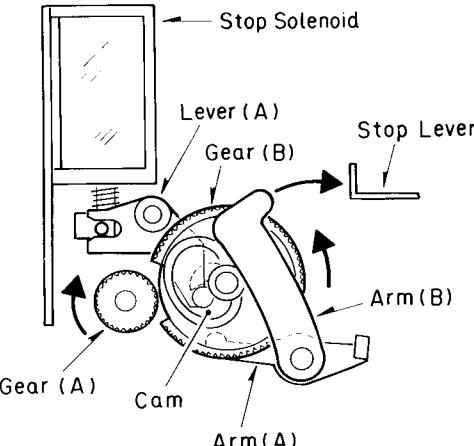

Fig. 4
1. The mechanism uses six solenoids to perform the operations required in STOP, FF, REW, PAUSE, PLAY and REC modes. Figure 4 shows the positional relationship between the solenoid and the gears (STOP mode in this case).
2. When power is switched ON, the motor turns for a predetermined length of time, rotating the pulleys and gear (A).
3. At the same time, the STOP solenoid comes ON and pulls on lever (A) to unlock gear (B). Arm (A) rotates gear (B) a short distance (in the direction of the arrow), where it engages with gear (A).
4. When gear (B) starts turning, the cam presses on arm (B), which in turn presses on the STOP lever.
7. After gear (B) rotates thru one full turn, since the solenoid is now OFF, it locks.
- Pressing the PLAY button starts the motor rotating, and at the same time turns the PLAY solenoid ON. The PLAY lever is pressed by arm (B), and locked by the lockplate (see Fig. 4).
- The PLAY lever, via arm (E) moves the head mount forward. It also presses against arm (F), which causes the pinch-roller to contact the capstan shaft. Arm (F) is coupled to the TP unit thru arm (G), and the above action causes the TP unit to contact the reel unit, completing PLAY mode entry.
- Pressing the FF button starts the motor rotating, and at the same time turns the FF solenoid ON. The FF lever is pressed by arm (B), and locked by the lockplate (see Fig. 4).
- The action of the FF lever causes the FF gear to contact the FR unit and reel unit. Through coupling with arms (H) and (I), it also advances the head mount to the blank (between selection) detection position.
1. Pressing the REW button starts the motor rotating, and at the same time turns the REW solenoid ON. This causes the REW lever to be pressed by arm (B) and locked by the lockplate (see Fig. 4).
2. The REW lever moves arm (J) coupled to the FR unit. The FR unit thus is forced into contact with the reel unit. Through coupling with arms (H) and (I), the REW lever also advances the head mount to the blank detection position.
1. Pressing the REC button starts the motor rotating, and at the same time turns the REC solenoid ON. The REC lever is then pressed by arm (B) (see Fig. 4). At the same time, the REC lever presses the PLAY lever, and both levers are engaged by the lockplate.
1. When the REC button is pressed from the REC PAUSE mode, the PLAY solenoid is turned ON, and the PLAY arm (Fig. 4, arm (B)) presses the slider at the point of the arrow. This causes the slider to move upward, releasing only the PAUSE lever lock and entering the REC mode.